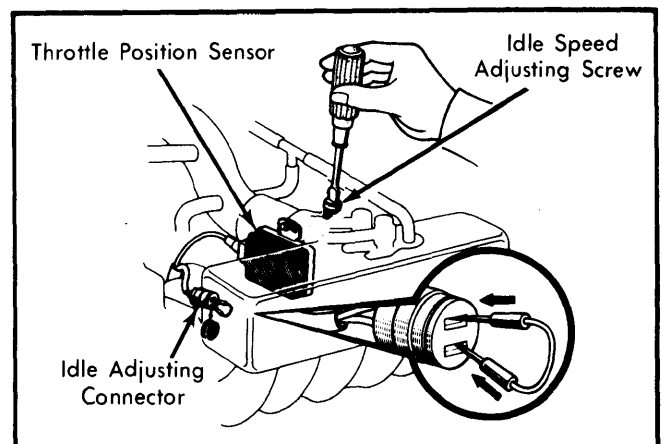

Fig. 6 Idle Speed Adjusting Screw and Connector (Fuel Injected Models)
- 4) Set the idle speed to 800 RPM with idle speed adjusting screw. See Fig. 6.